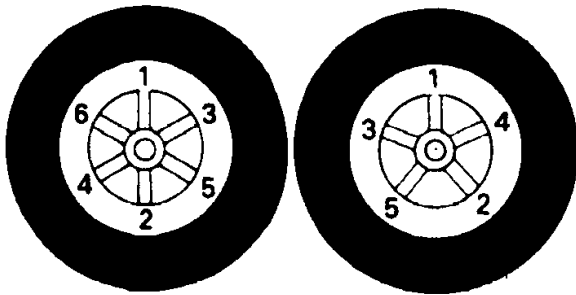
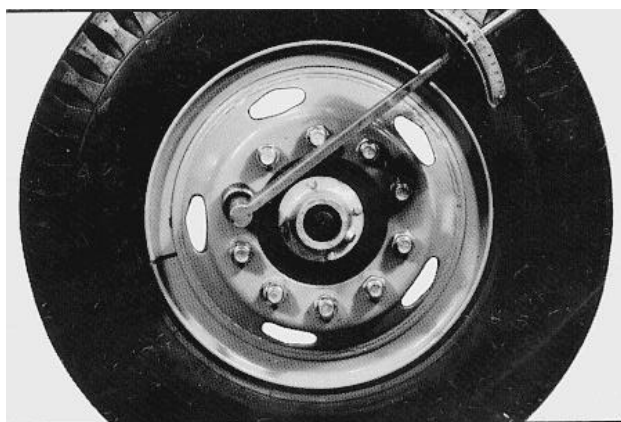

Figure 22 Cast Spoke Wheel Tightening Sequence
Figure 23 Using Torque Wrench to Torque Wheel Nuts
5. Turn top nut "1" (Figure 22) until it is snug.
6. Rotate wheel and rim until nut "2" (Figure 22) is at top position and snug nut.
7. Rotate wheel and rim until nut "3" (Figure 22) is at top position and snug nut.
10. After operating the vehicle approximately 50 miles (80 km), check the stud nuts for tightness in same sequence shown in Figure 22 . Once each week, inspect and re-torque wheel stud nuts (Figure 23).
Once each week inspect and re-torque wheel stud nuts, if necessary (Figure 23).